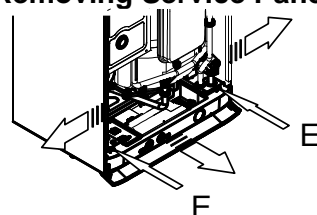

Figure 12.3
- Move the lower part of the side panels (figure 12.3) and remove screws E.